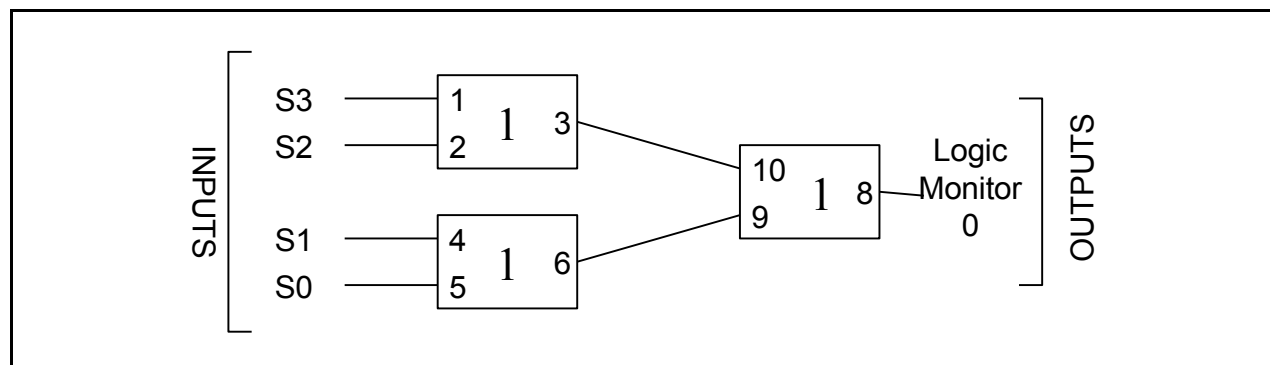

FIGURE 3
- The circuit you have wired can be represented as a block diagram as shown in Figure 3. Each block represents a logic gate and in the middle of each block is a number which indicates which chip the element is contained in. This is necessary when more than one chip is used to create a logic function. In addition, each input and output pin of the logic element is labeled so that wiring can proceed easily. These pin numbers correspond to the IC package pin numbers. Use this method whenever you make a circuit diagram with the exception that standard symbols for gates are to be used in place of the square boxes.